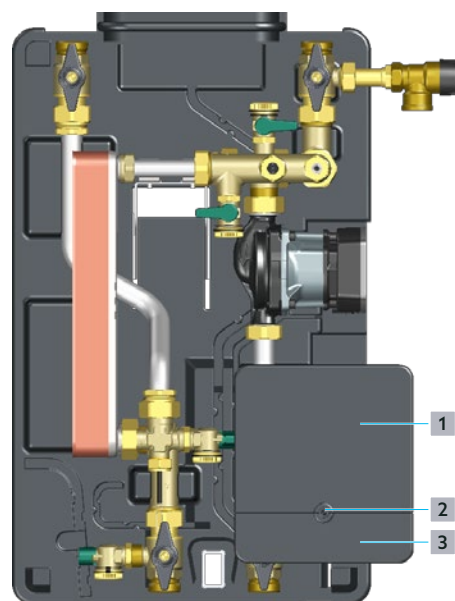

Fig. 8: Opening of the controller
- 3 Loosen the screw (position 2 in Fig. 8 on page 9) and put it to one side.
- 4 Slide the connection panel cover (position 1 in Fig. 8 on page 9) upwards until it audibly locks into place.
- 5 Fold down the supply line cover (position 3 in Fig. 8 on page 9).
- 6** Fold down the supply line cover (position **3** in Fig. 8 on page 9).